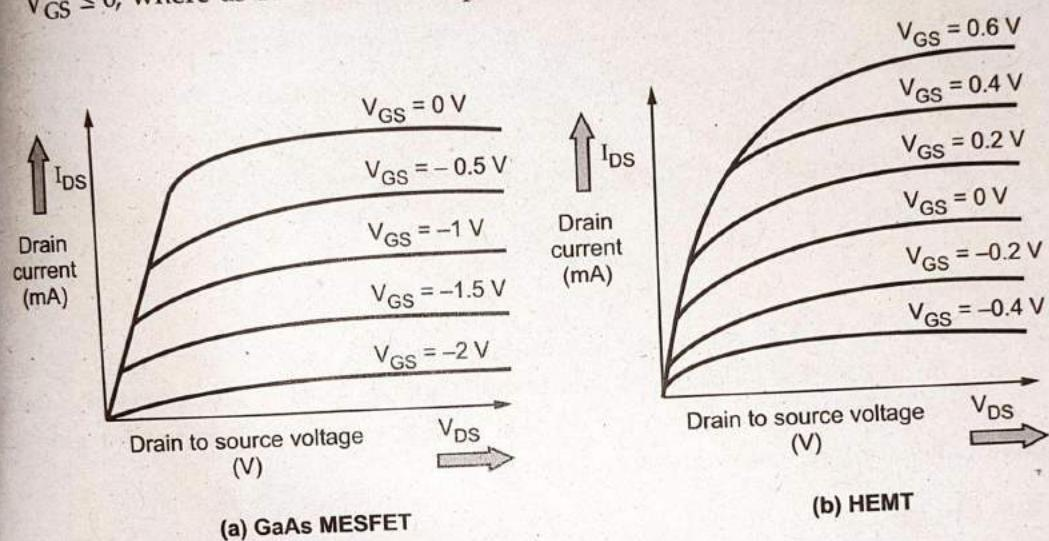

Fig. 5.2.2 D.C. characteristics
- D.C. characteristics ( $I_{DS}$  versus  $V_{DS}$  for different  $V_{GS}$ ) of a typical n-channel GaAs MESFET and a typical HEMT is shown in Fig. 5.2.2.